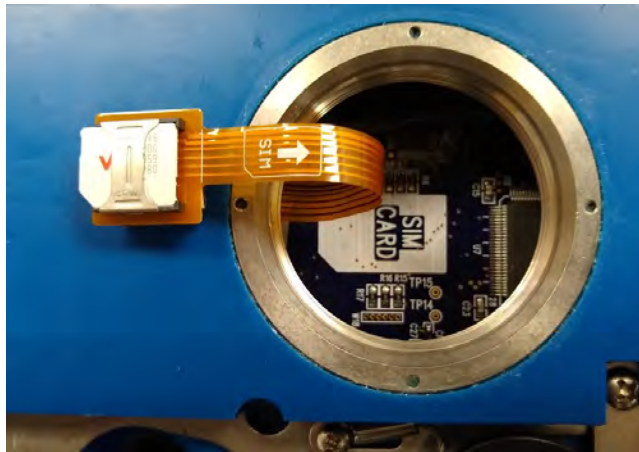

Figure 4-4 Inserting the SIM card
3. Insert the SIM card into the SIM extender (Figure 4-4).